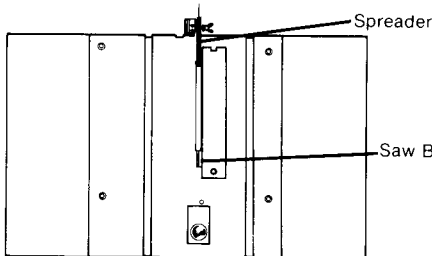

Figure 30
- C. The Spreader and Guard Assembly should now be properly installed and aligned. A test cut to double check will be necessary before any finish cuts are to be made. **DO NOT PERFORM TEST CUT AT THIS TIME.** NOTE: Examine **figures 30** and **31** carefully to determine if you have properly aligned your Guard Assembly. If your saw does not meet the criteria presented in **figures 30** and **31**, repeat the alignment procedure until it does.